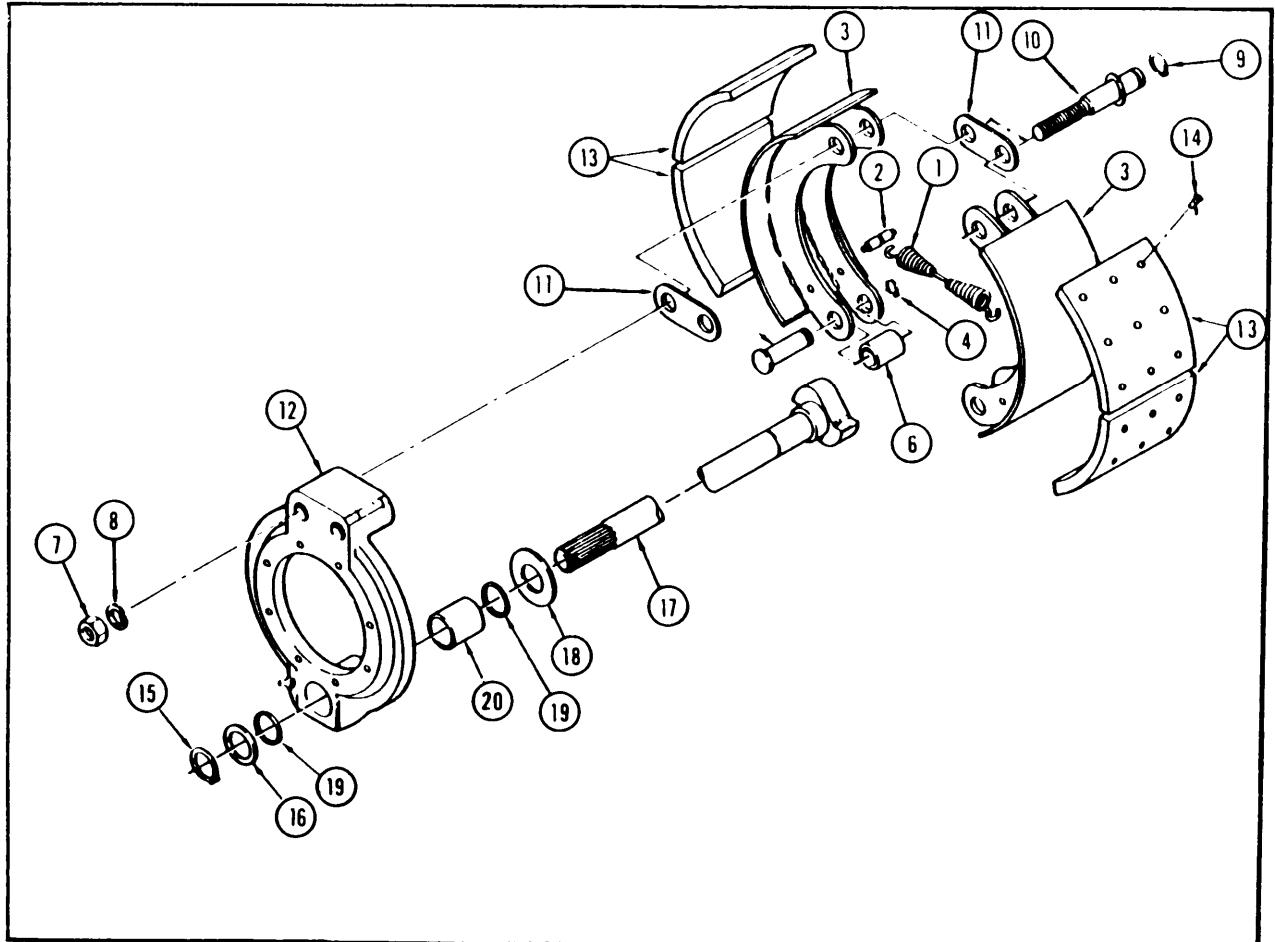

Figure 2-21. Trailer Service Brake (ARMY)
(7) Carefully remove tire and wheel assembly and hub and drum assembly as a single unit.
(8) Remove cotter pin (12) and clevis pin (13) connecting slack adjuster (14) to air chamber assembly (15).
(9) Remove lock ring (16) from end of cam shaft (17), then slide slack adjuster (14) from spined portion of cam shaft (17).
(10) Remove nuts (18), washers (19) and bolts (20) securing service brake assembly (21) to brake flange (22).
(11) Pull service brake assembly (21) off over axle assembly (23) and out of cam bracket assembly (24).
b. Disassembly. Figure 2-21
(1) Place service brake assembly on adequate workbench.
(2) Using standard brake spring tool, carefully remove retract spring (1) from retract spring pins (2).
(3) Remove retract spring pins (2) from brake shoes (3).
(4) Remove brake roller retaining rings (4) securing brake roller pins (5) in brake shoes (3).
(5) Remove brake roller pins (5) and brake rollers (6) from brake shoes (3).
(6) Remove anchor pin nuts (7), anchor pin lock washers (8), anchor pin locks (9), anchor pins (10) and anchor pin links (11) securing brake shoes (3) to brake spider (12).
(7) Brake shoes (3) and brake linings (13) can now be removed as a single unit.
(8) If brake linings (13) are to be removed from brake shoes (3), remove rivets (14).
(9) Remove cam shaft lock ring (15) and cam shaft spacer washer (16).
(10) Pull cam shaft (17) out of brake spider (12). Remove cam shaft retainer washer (18).
(1) Inspect wear on brake linings. If brake lining has worn close to rivet heads or if brake lining wear is uneven, replace brake linings.
(2) Inspect brake linings for oil or grease. If present, replace brake linings.
(3) Inspect cam shaft for wear or damage. If badly worn or damaged, replace cam shaft.
d. Assembly. (Figure 2-21).